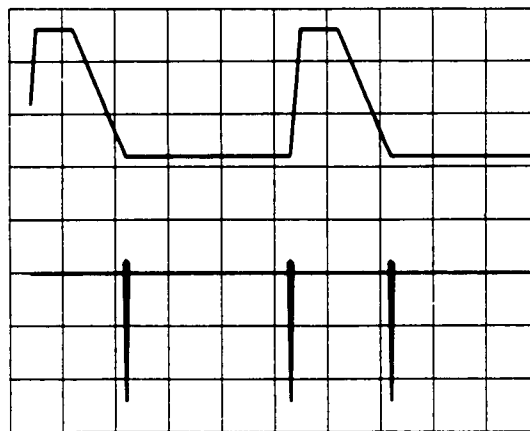

**Figure 7.** Loop Amplifier +0.4 Vdc Lock-Up.
7. Change the frequency of the Signal Generator to 850 MHz. Verify that the oscilloscope display shown in Figure 7 is correct. Note the lock-up point of approximately +0.4 Vdc on the Channel A display and that lock-up occurs on the first beatnote detected during ramp down of the Loop Amplifier.